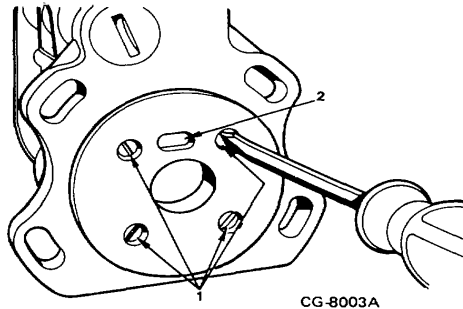

Figure 9. Install Drive End Bearing Plate
26. Install drive end bearing retaining plate, oil return hole must be toward top of pump (Figure 9). Mounting screws must be coated with Loc-Tite 601.